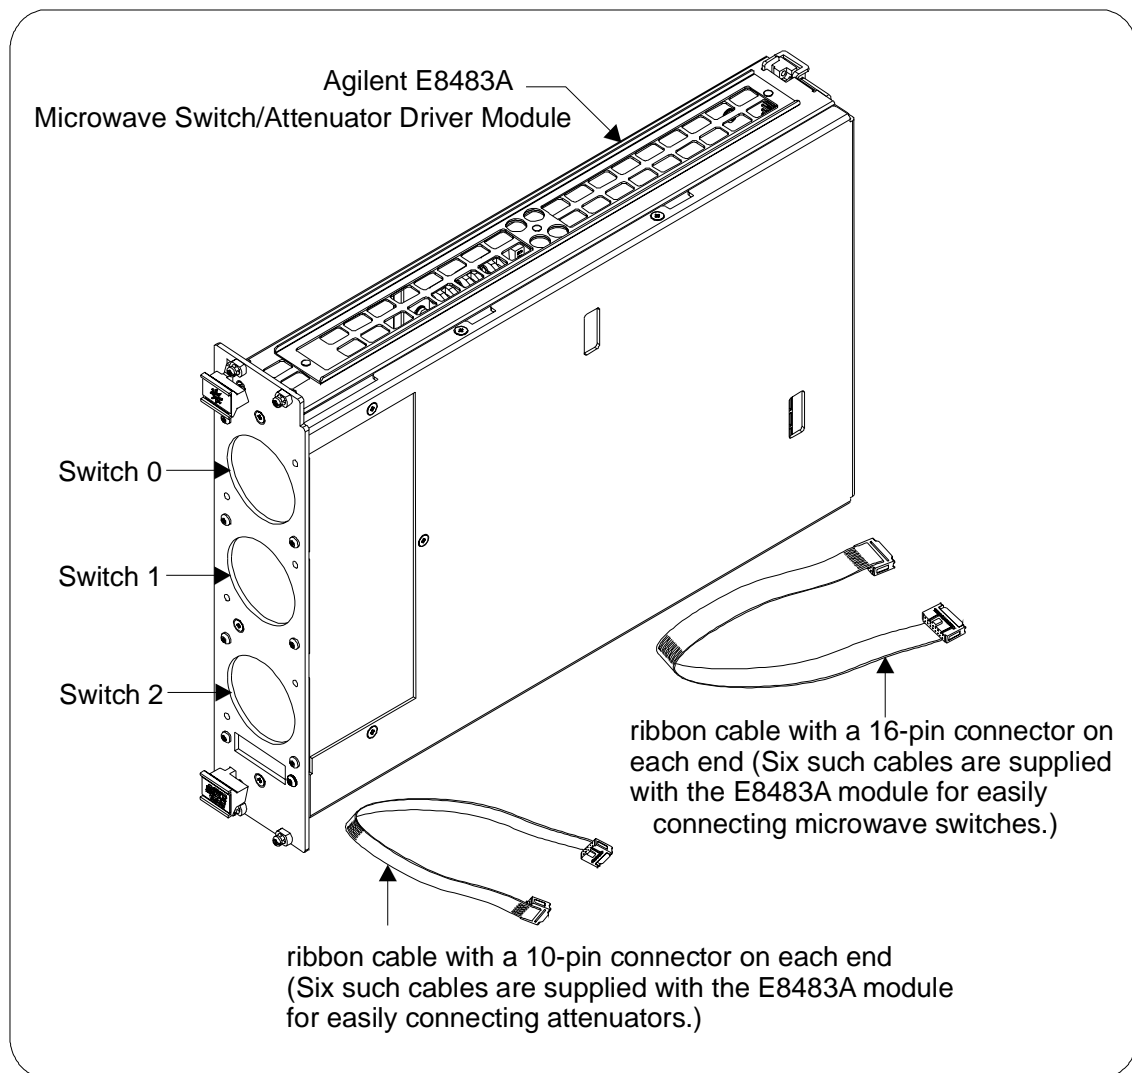

Figure 1-1. Agilent E8483A Microwave Switch/Attenuator Driver Module
This manual contains information required to test, troubleshoot, and repair the Agilent E8483A Microwave Switch/Attenuator Driver module (see Figure 1-1). For more information on the module operation, see *Agilent E8483A Microwave Switch/Attenuator Driver Module User's Manual*.
2. Check the shipping contents and verify they are complete. Normally, an E8483A module with twelve cables (see Figure 1-1) and a User's Manual should be included. If the contents are incomplete or with mechanical damage/defect, contact Agilent Technologies (see page 10).